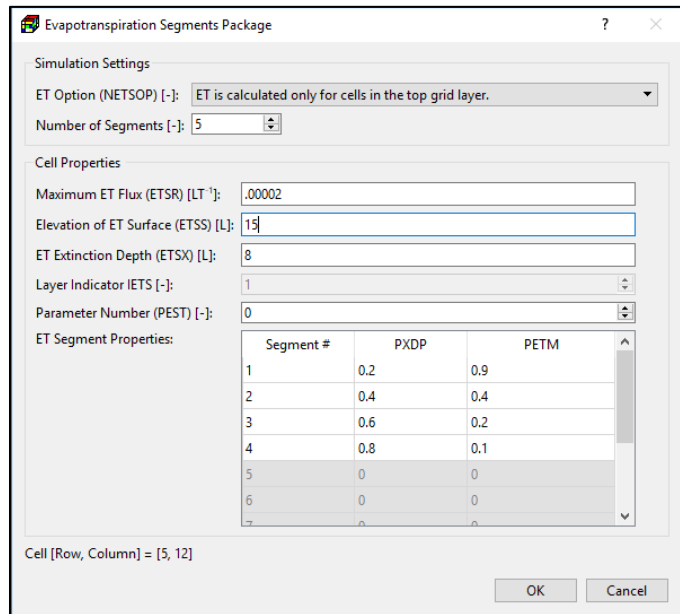

Figure 46. The Evapotranspiration Segments Package dialog box
1. **All input methods:** Figure 46 shows the dialog box for specifying cell, vertex, or polygon properties.